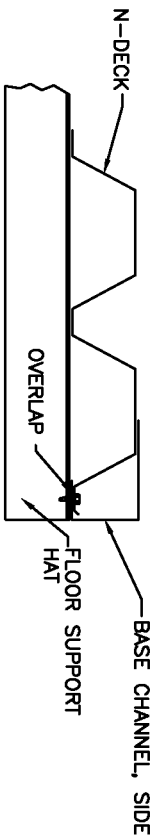

FIGURE 4
PLACE A SHEET OF N-DECK ON FLOOR SUPPORTS AND PLACE IT UNDER TOP LEG OF BASE CHANNEL (SEE FIG. 4). REMOVE SCREWS FROM THE BASE CHANNEL ON THE SIDE YOU PLACED THE N-DECK. BE CAREFUL NOT TO MOVE ANY PART OF THE BUILDING NOW INSTALL THE SCREWS THROUGH BASE CHANNEL, N-DECK AND SUPPORT HATS.
PLACE THE REMAINING SHEETS OF N-DECK ON THE BUILDING FLOOR SUPPORTS. SQUARE DECK SHEETS TO SUPPORTS, KEEPING ENDS EVEN WITH BOTH EDGES OF OUTSIDE SUPPORT HATS. PLACE LAST SHEET UNDER "BASE CHANNEL BACK" (SEE FIG. 4). NOW ATTACH DECK SHEETS TO FLOOR SUPPORTS WITH #14 1/4" x 3/4" SELF DRILLING SCREWS. USE (8) SCREWS AT EACH SUPPORT HAT FOR EACH PIECE OF DECK, OR (2) SCREWS AT ALL LOW CORRUGATION SURFACES (LOW RIBS) OF N-DECK.